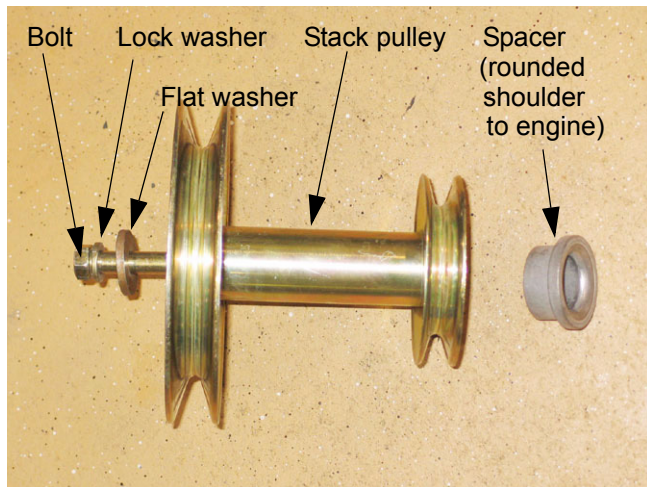

Figure 11.12
11.12. Pulley Hardware: The pulley is secured by a bolt, lock washer, and a heavy flat washer. A spacer is positioned above it on the crankshaft, with the top edge radius matching the step in the crankshaft. The key is integral with the stack pulley. See Figure 11.12.